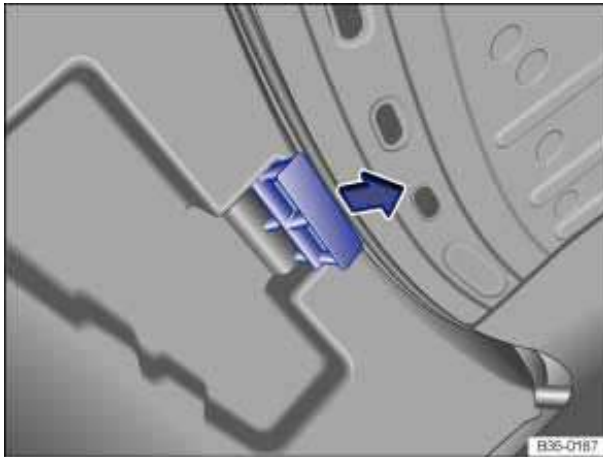

Fig. 164 Inside the luggage compartment: Unlocking luggage compartment lid.
- Locate the release handle in the luggage compartment lid ⇒ fig. 164.